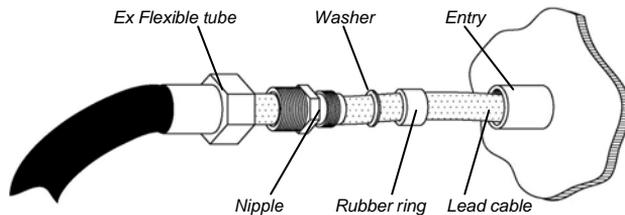

Fig.3
- a. As Fig.3, cover the ex-flexible tube on the cable in advance; after remove the gland nut, keep standard washer and rubber ring (also choose the spare parts in the packing box),